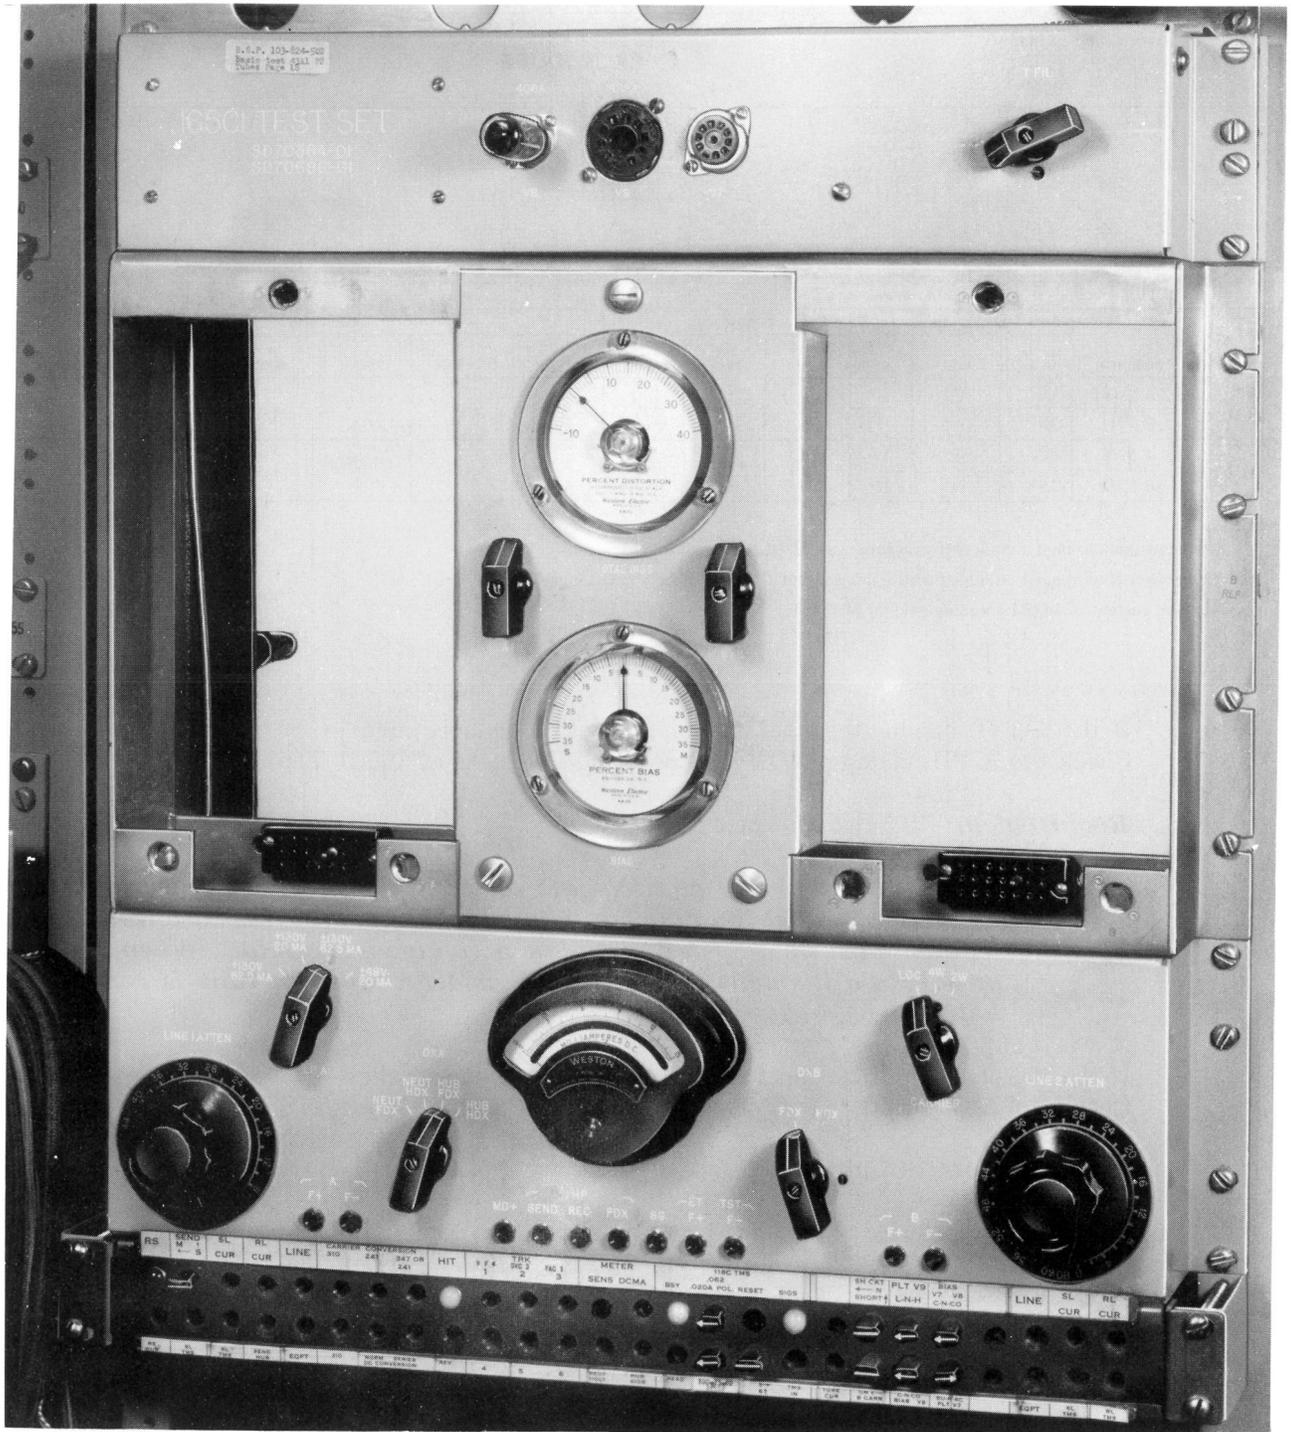

Fig. 1—165C1 Test Set—Front View
- (c) Set the 165C1 TTS and both channel terminal controls and switches in accordance with Table D. Refer to Fig. 1.